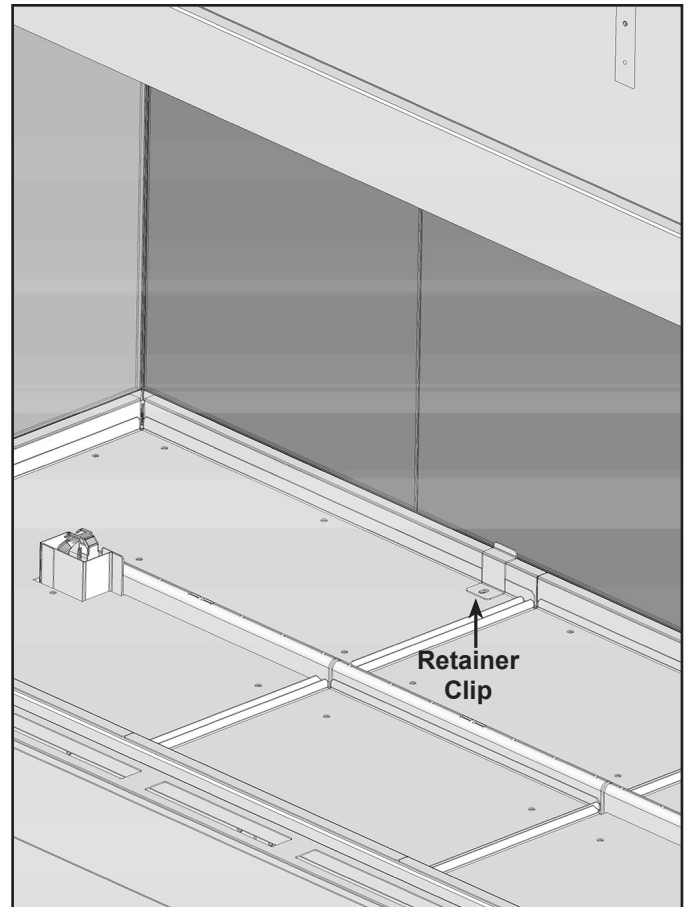
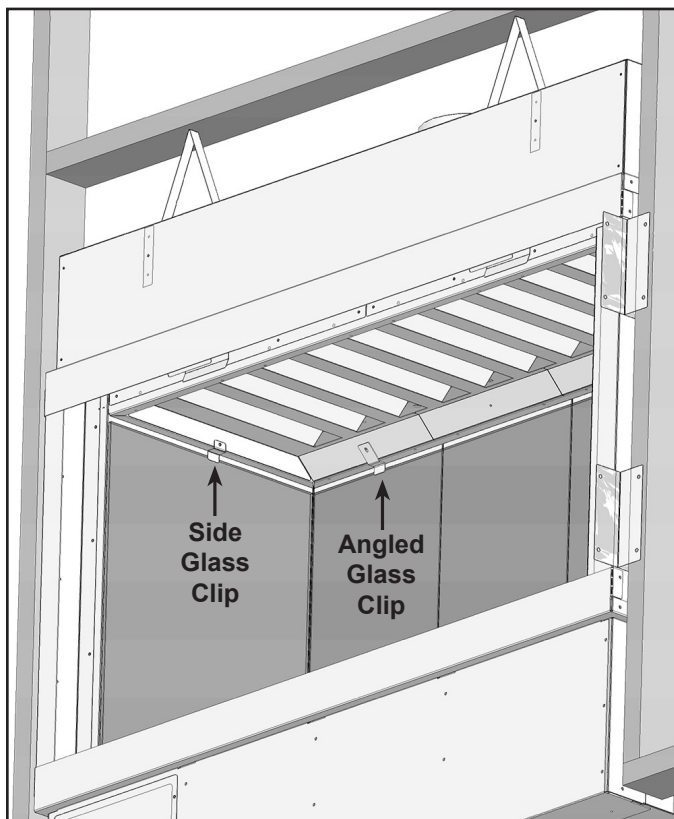

Figure 4 Retainer Clip Installed
Figure 3 Glass Clips Installed
Note: Rear mirrored panels are about 12 inches wide. There is one panel for every foot of viewing length. See Figure 3 and Figure 4.
4. Using the angled glass clips and screws from the kit, install the clips into the holes in the angled portion of the firebox top. Repeat for entire back wall. See Figure 3.
6. Install the side glass clip into the side of the fireplace above the mirrored panel to hold the mirror in place. See Figure 3.
7. Remove one screw at a time from the back of the mesh screen and place a retainer clip against the back mirrored panel and replace the screw. Repeat for two clips per mirrored panel. See Figure 4.
5. Remove one screw at a time from the back of the mesh screen and place a retainer clip against the back mirrored panel and replace the screw. Repeat for two clips per mirrored panel. See Figure 4.